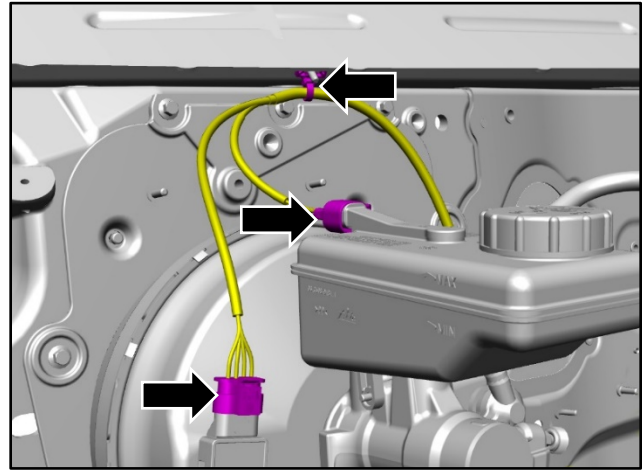

Figure 33
2. Disconnect the two electrical connectors and release the clip for the wiring harness (refer to Figure 33).